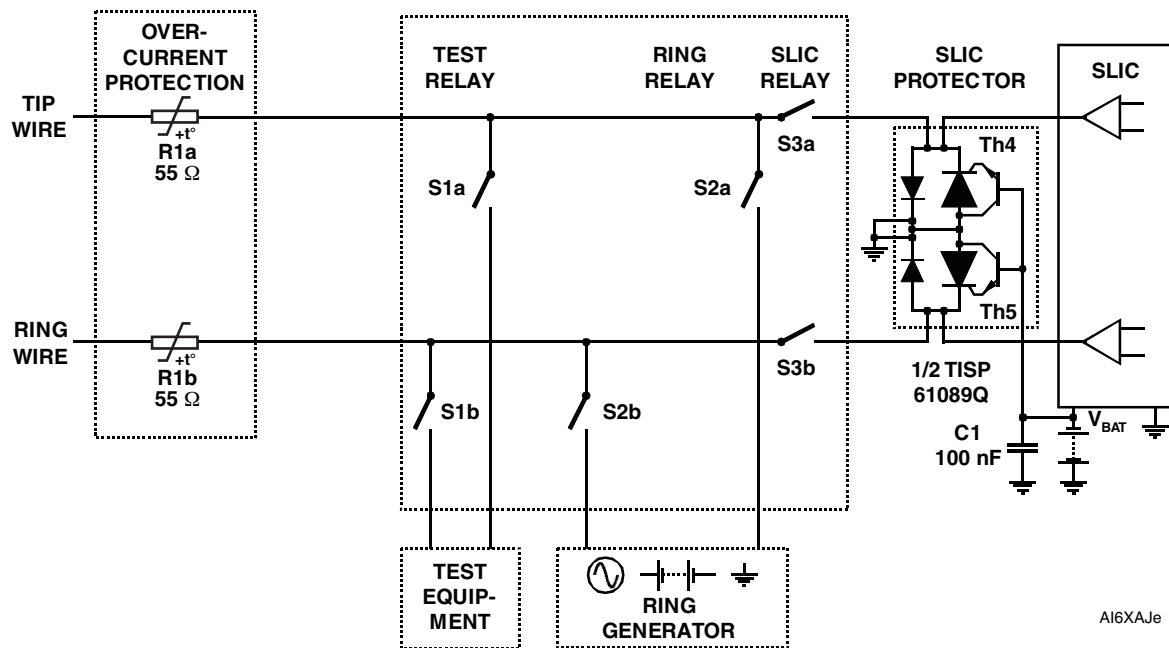

Figure 2. Typical Application Circuit
Figure 2 shows a typical TISP61089Q SLIC card protection circuit. The incoming line conductors, Ring (R) and Tip (T), connect to the relay matrix via the series overcurrent protection. Positive temperature coefficient (PTC) resistors can be used for overcurrent protection. Resistors will reduce the prospective current from the surge generator for both the TISP61089Q and the ring/test protector.